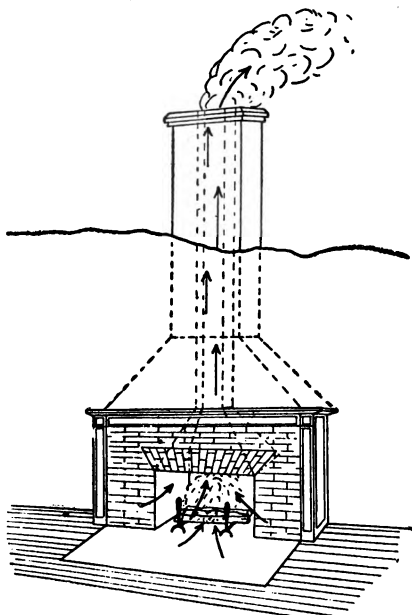

FIG. 34.—THE FIREPLACE HELPS TO VENTILATE THE ROOM
**80. Development of Our Modern Heating Systems.** Before coal came into general use, wood fires were the means of heating our houses, and fireplaces (Fig. 34) were built in nearly every room. Then came the air-tight wood stoves that warmed the rooms more effectively, as less heat was lost up the chimney. With the discovery of coal as a fuel, there resulted a means of keeping the fires